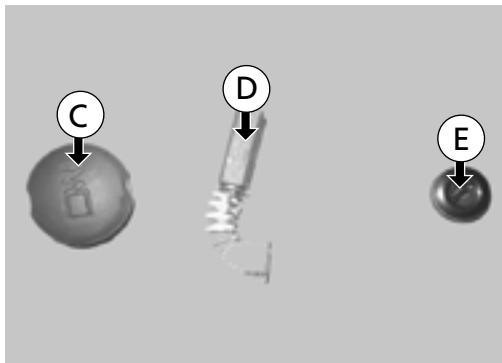

Fig. 52
To change the brushes, open the brush housing cover (C) and release the threaded cover (E) with a screwdriver (D) - (Fig. 52) to access the brushes.